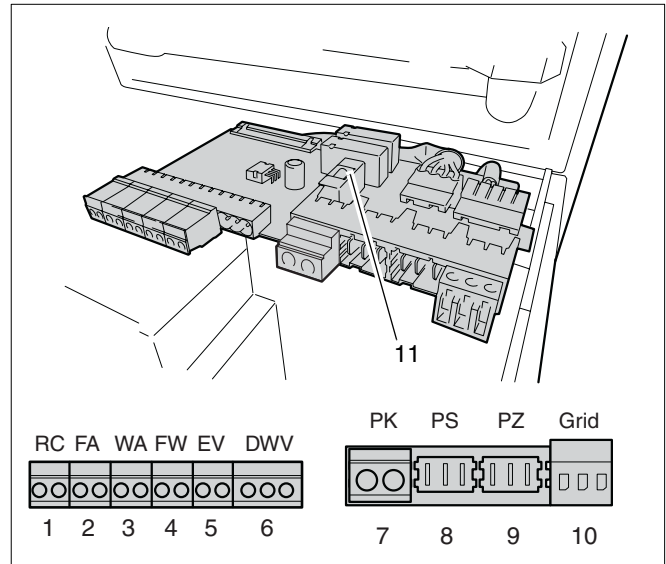

Fig. 46 External connection board
- Dismantle the fuse holder (fig. 46, pos. 11)